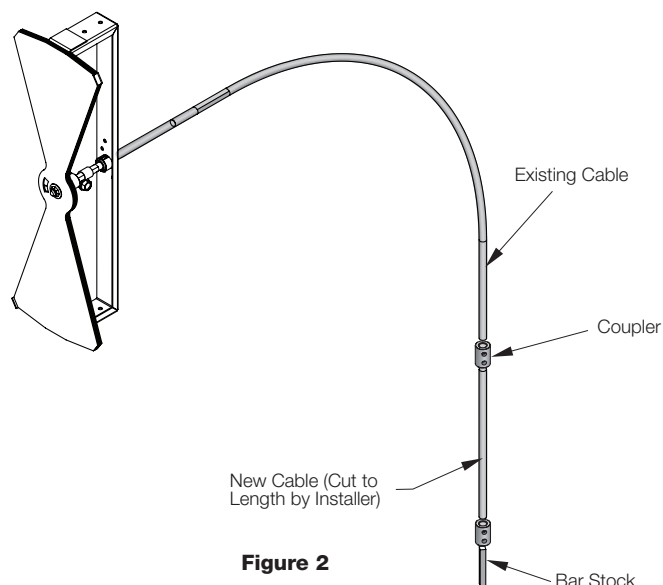

Figure 2
3. Attach the second coupler to the other end of the new cable. (Fig. 2)
4. Attach the bar stock to the end of the coupler. (Fig. 2)
7. Adjust the damper as needed using a 3/16 in. (5) socket or wrench.